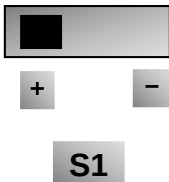

Figure 8-6
- vii. There is a toggle switch S1 at the side of control terminals, please refer to Fig 8-6. S1 is used to select the voltage input range of AI1 channel. When turning S1 to “+”, the input range is 0~10V, when turning S1 to “-”, the input range is -10~10V.